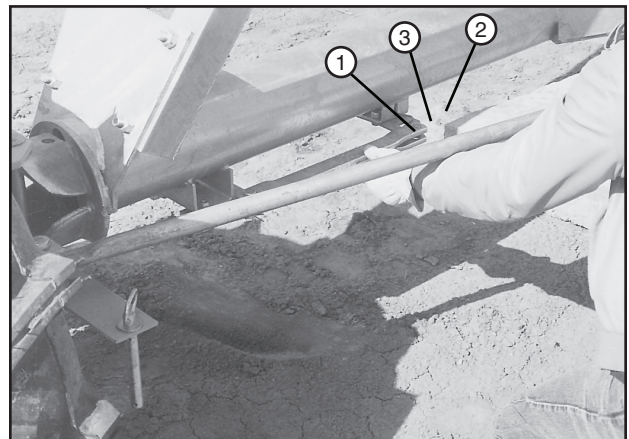

Figure 51-3 1. Tow Link Bar
11. Rotate each tow link bar into the tow link carrier until the carrier spring latches into the hole in tow link bar. See figure 51-3.